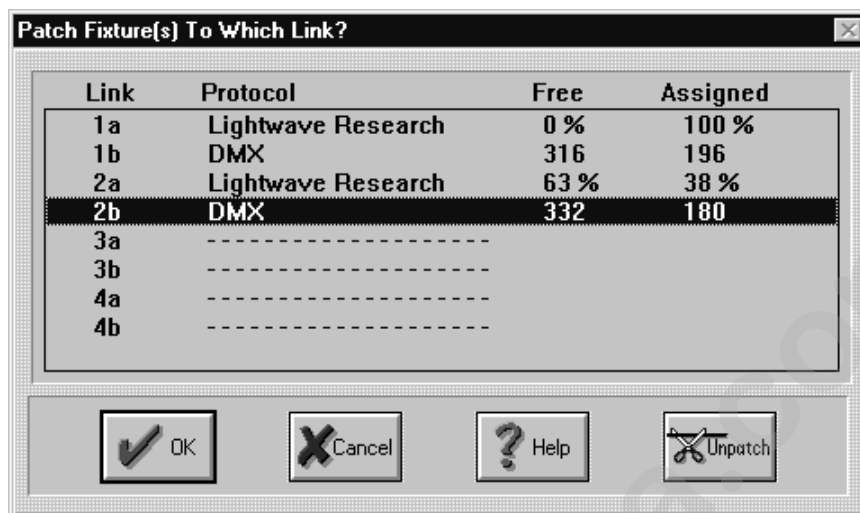
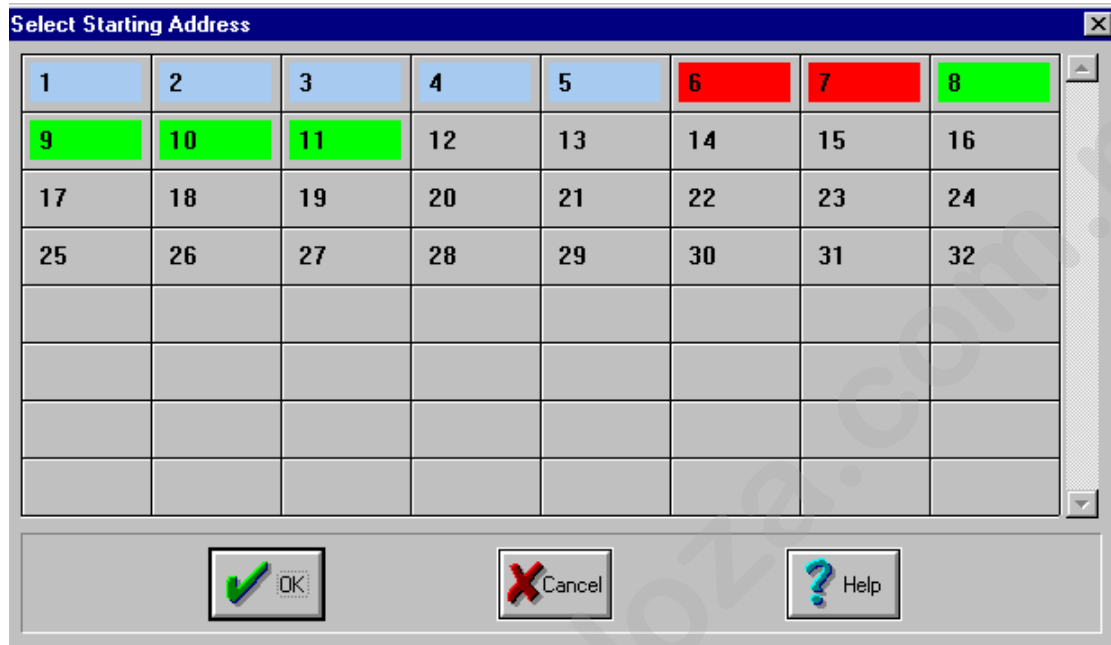

Figure 4.13. Patch Fixtures to Which Link? (LinkCard Patch) Dialogue Box
Figure 4.15. Select Starting Address Dialogue Box for LWR Links
3. Click on the **Patch** button. This will bring up the **Patch Fixture(s) to Which Link?** window. Refer to Figure 4.13.
- Click the Link you wish to patch to and click the **OK** button to bring up the **Select Starting Address** dialogue box. Alternately, double click on the Link. In this example, we selected Link 2a. Figure 4.13 shows a DMX Link and Figure 4.15 shows a LWR Link. If you wish to unpatch fixtures, simply click on the **Unpatch** button.